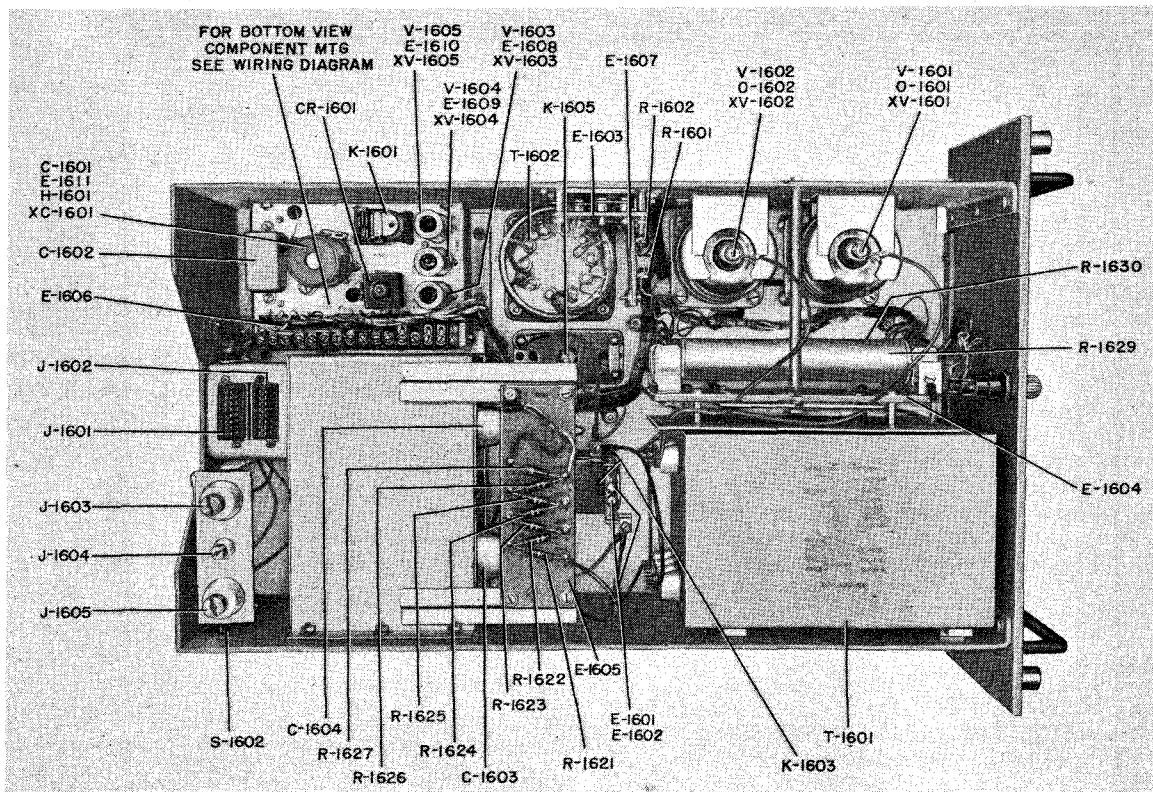

Figure 7-64. Radio Modulator MD-230/SRT (HLRM), Top View
a. TROUBLE SHOOTING.—If the carrier is not modulated in PHONE during 500-watt operation, but is modulated during 100-watt operation, the high level radio modulator (HLRM) is probably faulty. Check the 3000 V and 350 V SCREEN indicator lights. The 350 V SCREEN indicator light will go on only when the press-to-talk push button on the microphone is depressed. If the 350 V SCREEN indicator light does not go on, check connections to terminal board E-1606, relay K-1601, and associated circuit in the HLRM sub-unit chassis. See figures 7-64 and 7-65 for component locations. If the 3000 V indicator light does not go on, check the interconnecting high voltage cable and the high voltage source from the high voltage Power Supply PP-1096/SRT (HVPS). Check the fuses in the HVPS. (See Section 5, table 5-4.) If the TIME DELAY indicator light of the high voltage Power Supply PP-1096/SRT is on, use the VOLTMETER on the
If the bias of -50 volts is not present at the grids of V-1601 and V-1602, check the -50-volt bias supply. The bias supply consists of a selenium rectifier mounted on the HLRM subunit chassis (figure 7-64) and is connected to the grids of tubes V-1601 and V-1602 from terminal board E-1606 terminal No. 8.
All HLRM components, figure 7-64, are accessible from the top of the HLRM drawer. There are no components on the bottom of the HLRM chassis.